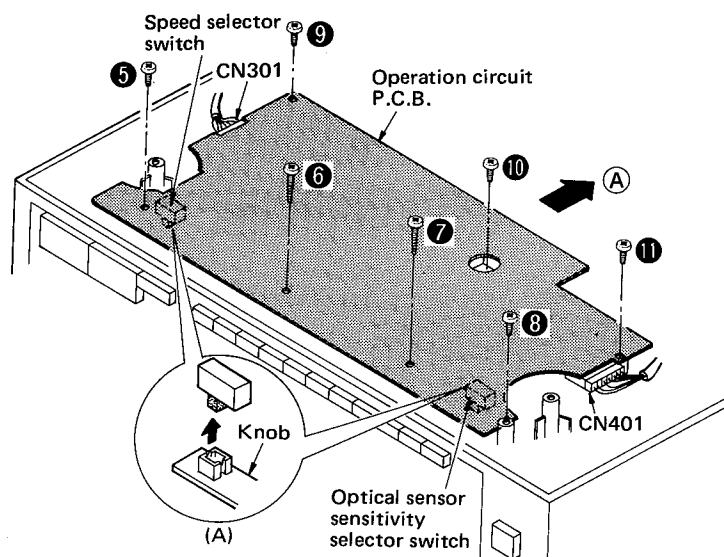

Fig. 3
2. Remove the 7 setscrews (Fig. 3 : ⑤ ~ ⑪) of the printed circuit board.
3. Remove the optical sensor sensitivity selector switch and speed selector switch from the knob. (Fig. 3-A)
4. Remove the printed circuit board in the direction to the arrow (A).